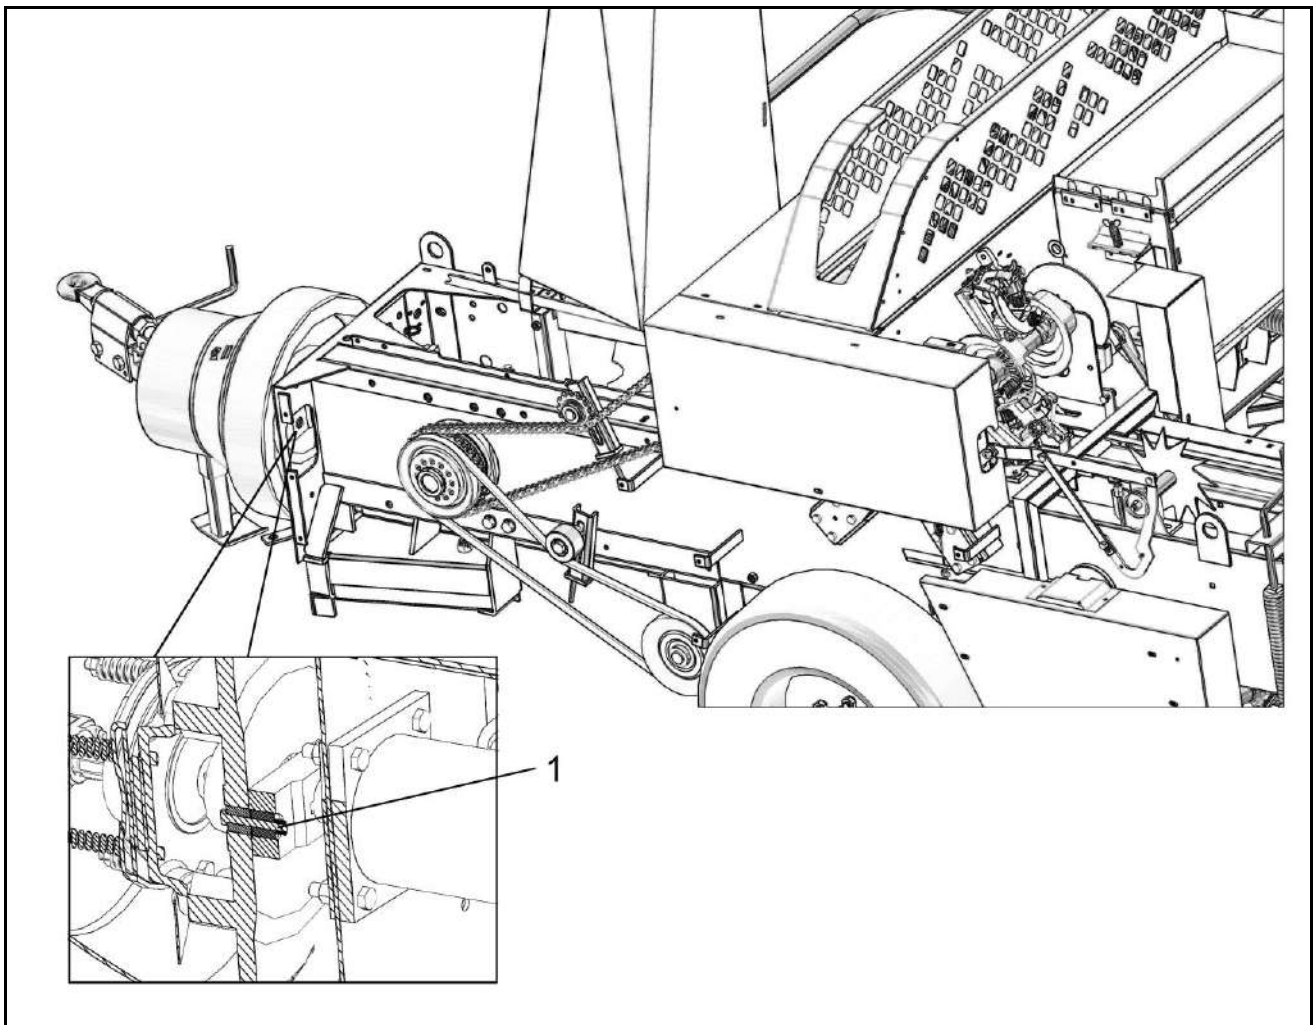

Fig. 6.3
The bolt is an M8 x 60 mm class 8.8 with self-locking nut (ref. 1, Fig. 6.3).
Its position is indicated by ref. 1, Fig. 6.3.